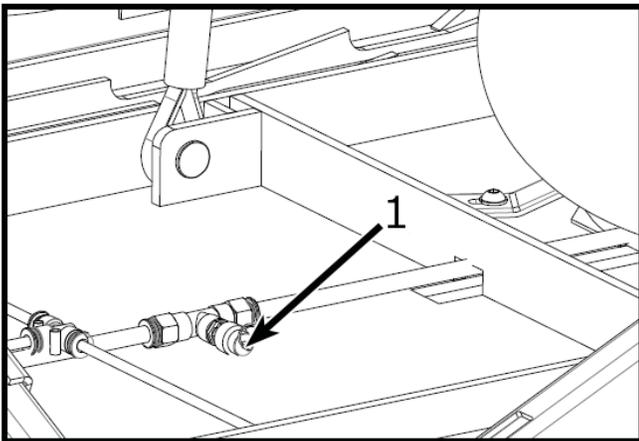

Fig. 11
- A pressure overload valve (1/Fig. 11) sets the maximum pressure at 7 bars and can automatically discharge the air in excess to prevent the air spring from damaging.